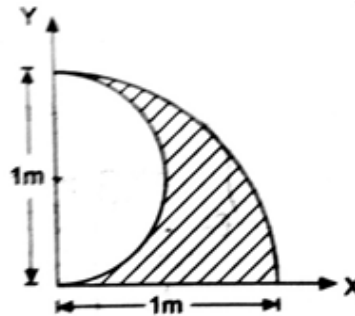

Fig. No.10
- b) Locate the centroid of shaded area as shown in Fig. No.10 wrt origin.